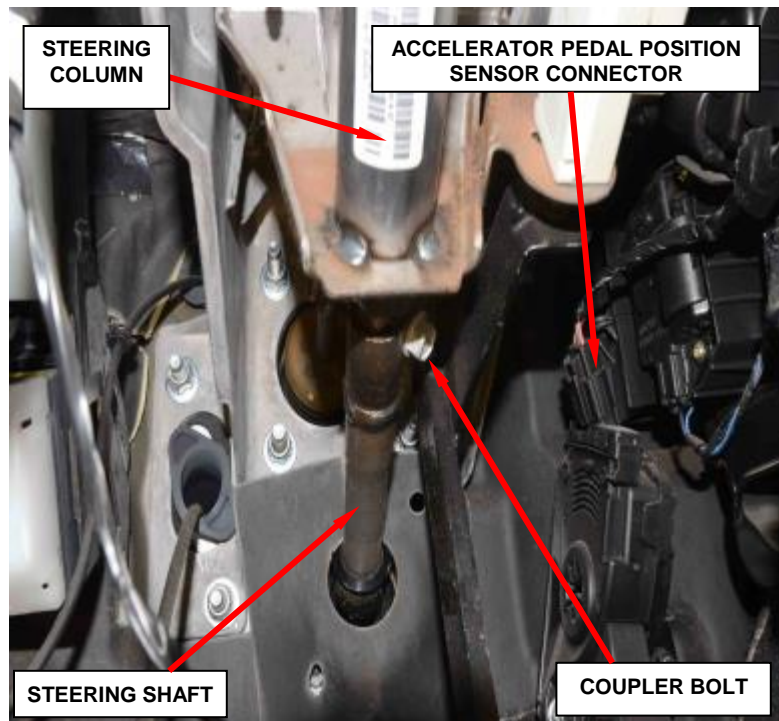

Figure 136 – Steering Shaft Coupler
14. Remove and **discard** the upper steering shaft coupler bolt from the column (Figure 136).